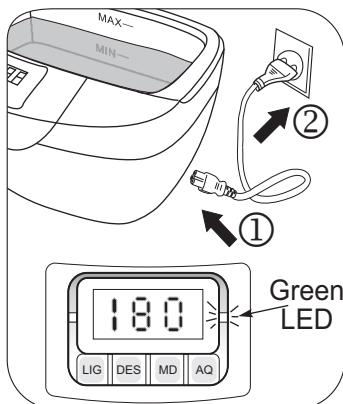

Fig. 9
- 2► Insert the power cable in the cleaner connector and the other end to the wall outlet (Fig. 9). The green LED indicates that the equipment is plugged in. The display will show the standard cycle of 180s (3 minutes).
•The equipment is not plugged in -----	•Plug the power cable on both ends, the power connector of the cleaner and the wall outlet (Fig. 9, page 8).